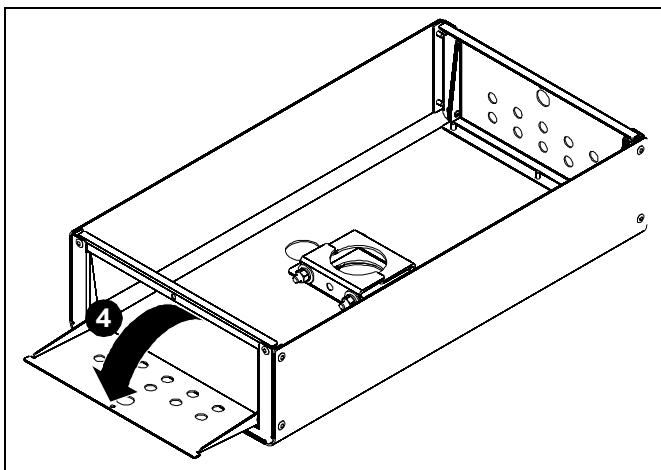

Figure 2
4. Open doors of CMA480. (See Figure 2)